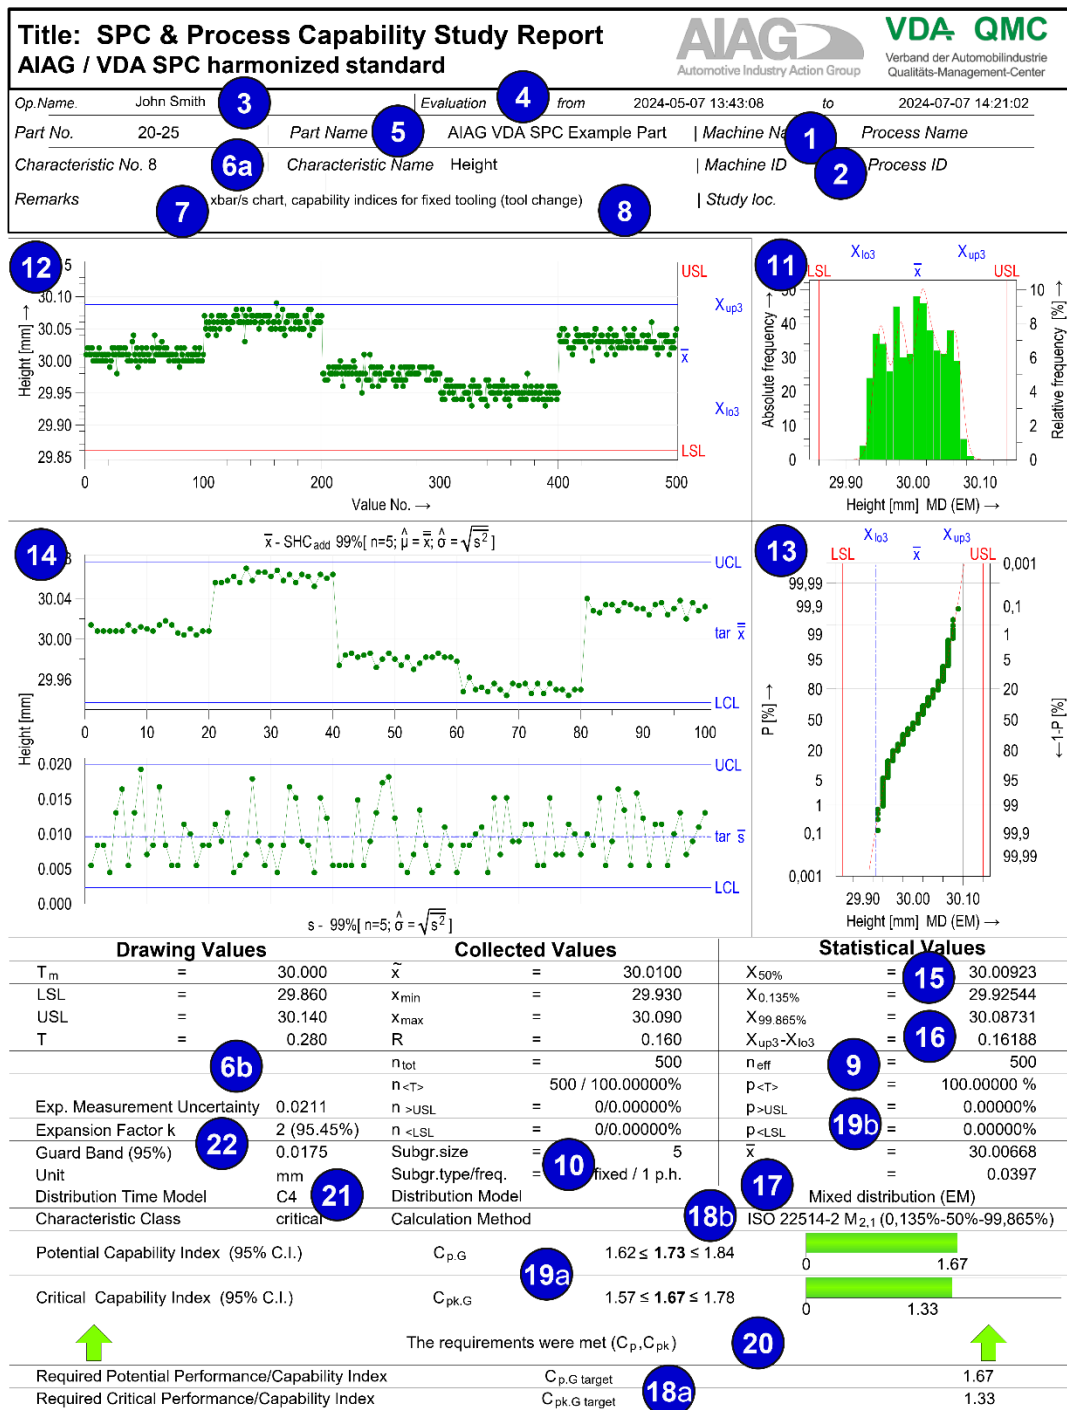

Figure 12-3 Example Report with Fictional Data for Process Capability (Non-Normal Distribution)
- **Figure 12-3:** Example Report for Process Capability (Non-normal Distribution)
Another example of a report of the same dataset as example 2 with additional information is shown in Figure 12-3. The table allows a direct comparison of the drawing data with the measured values and statistical results.: